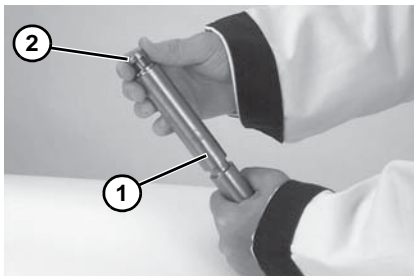

Figure 39
2. Inspect spindle (**Figure 39, item 1**). Replace if worn.
3. Slide bearing (**Figure 39, item 2**) onto spindle.